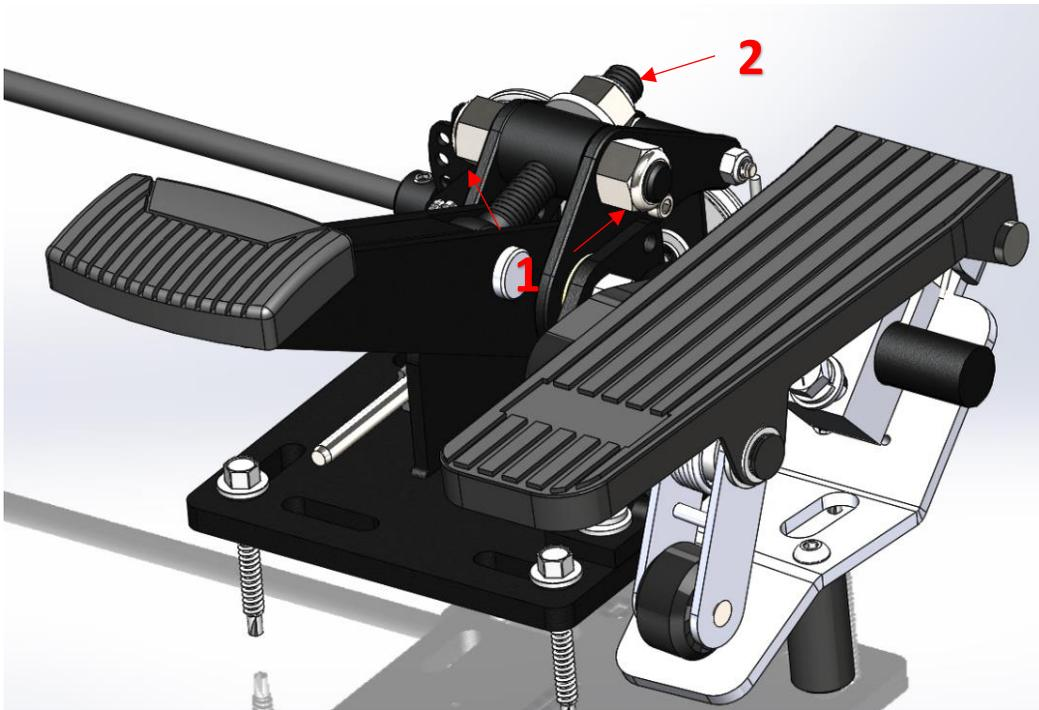

Figure 7: Brake pedal adjustment
Loosen nylock nuts on sides of pedal arm using 3/4 wrench or socket (1). Using a deep socket or wrench adjust height by loosening or tightening adjustment nut (2). Tighten nylock nuts on side of pedal arm once desired height is achieved. See Figure 7